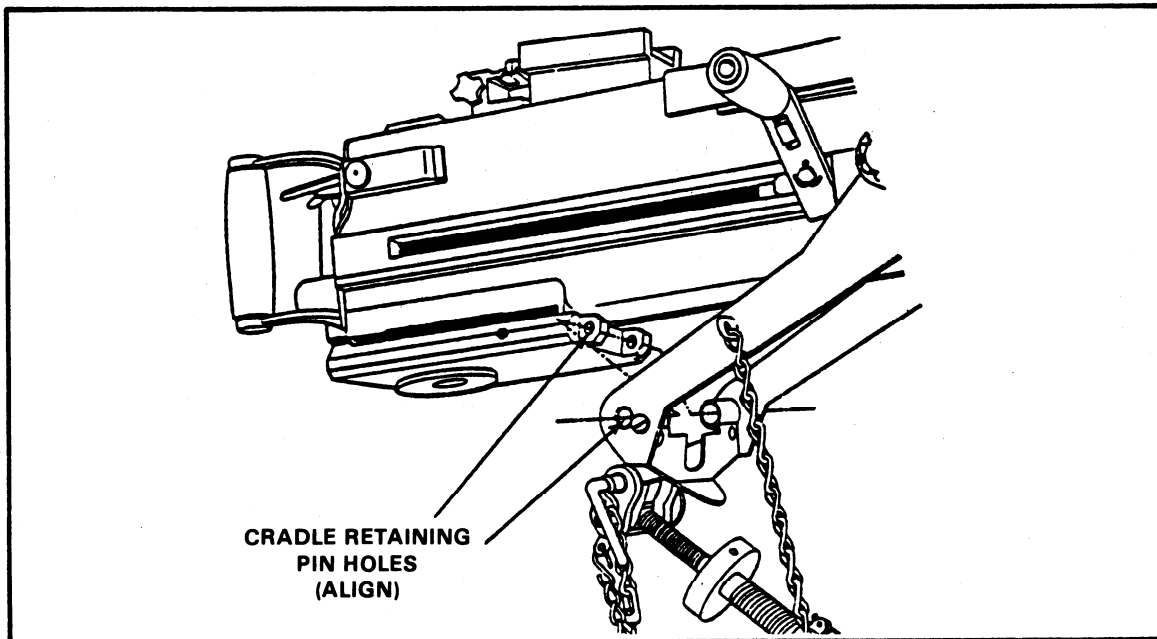
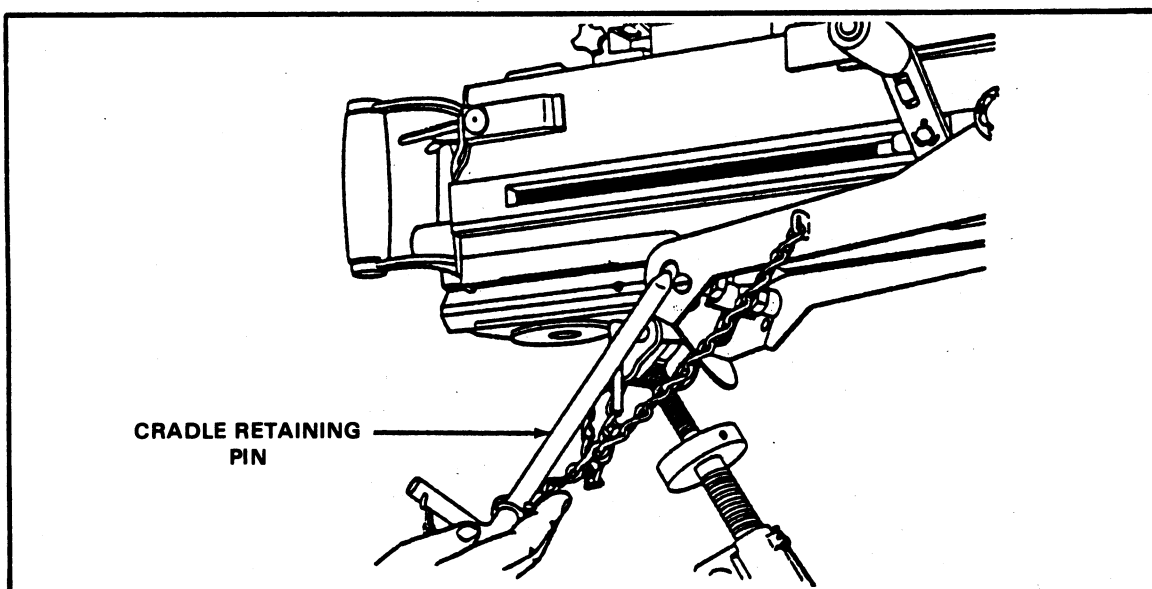

Figure 3-9. Alignment of the sear assembly and pin holes.
Figure 3-10. Insertion of the cradle retaining pin.
(3) Align the sear mounting holes with the gun cradle mounting holes Figure 3-9. Secure the rear of the weapon by inserting the retaining pin through the cradle and sear assembly and rotate it until it locks in place (Figure 3-10. If a safety clip is attached, use it to secure the retaining pin.